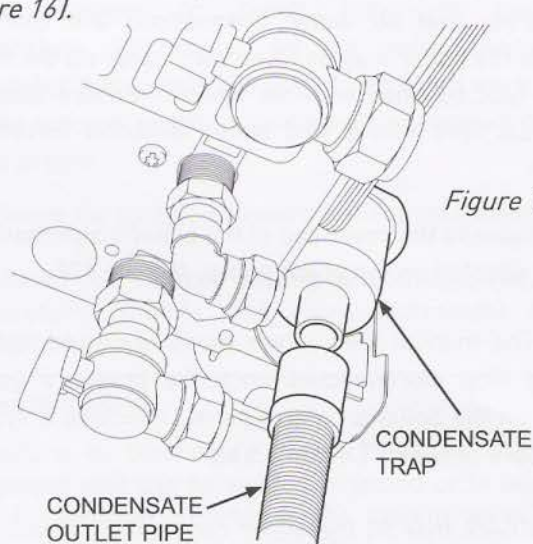

Figure 16
10.17 Extract the bottom part of condensate trap, by turning anti-clockwise and fill it with approximately 50 cc water re-connecting it to the boiler. (Figure 16).
10.18 Connect the condensate drainage pipe to the drainage system. (Figure 16) Note due to the acidic nature of the condensate the drainage system must be made of non-corrosive material such as plastic tubing. More detailed information on condensate discharge is provided in BS 6798 [Specification for installation of gas fired hot water boilers of rated input not exceeding 70kW]